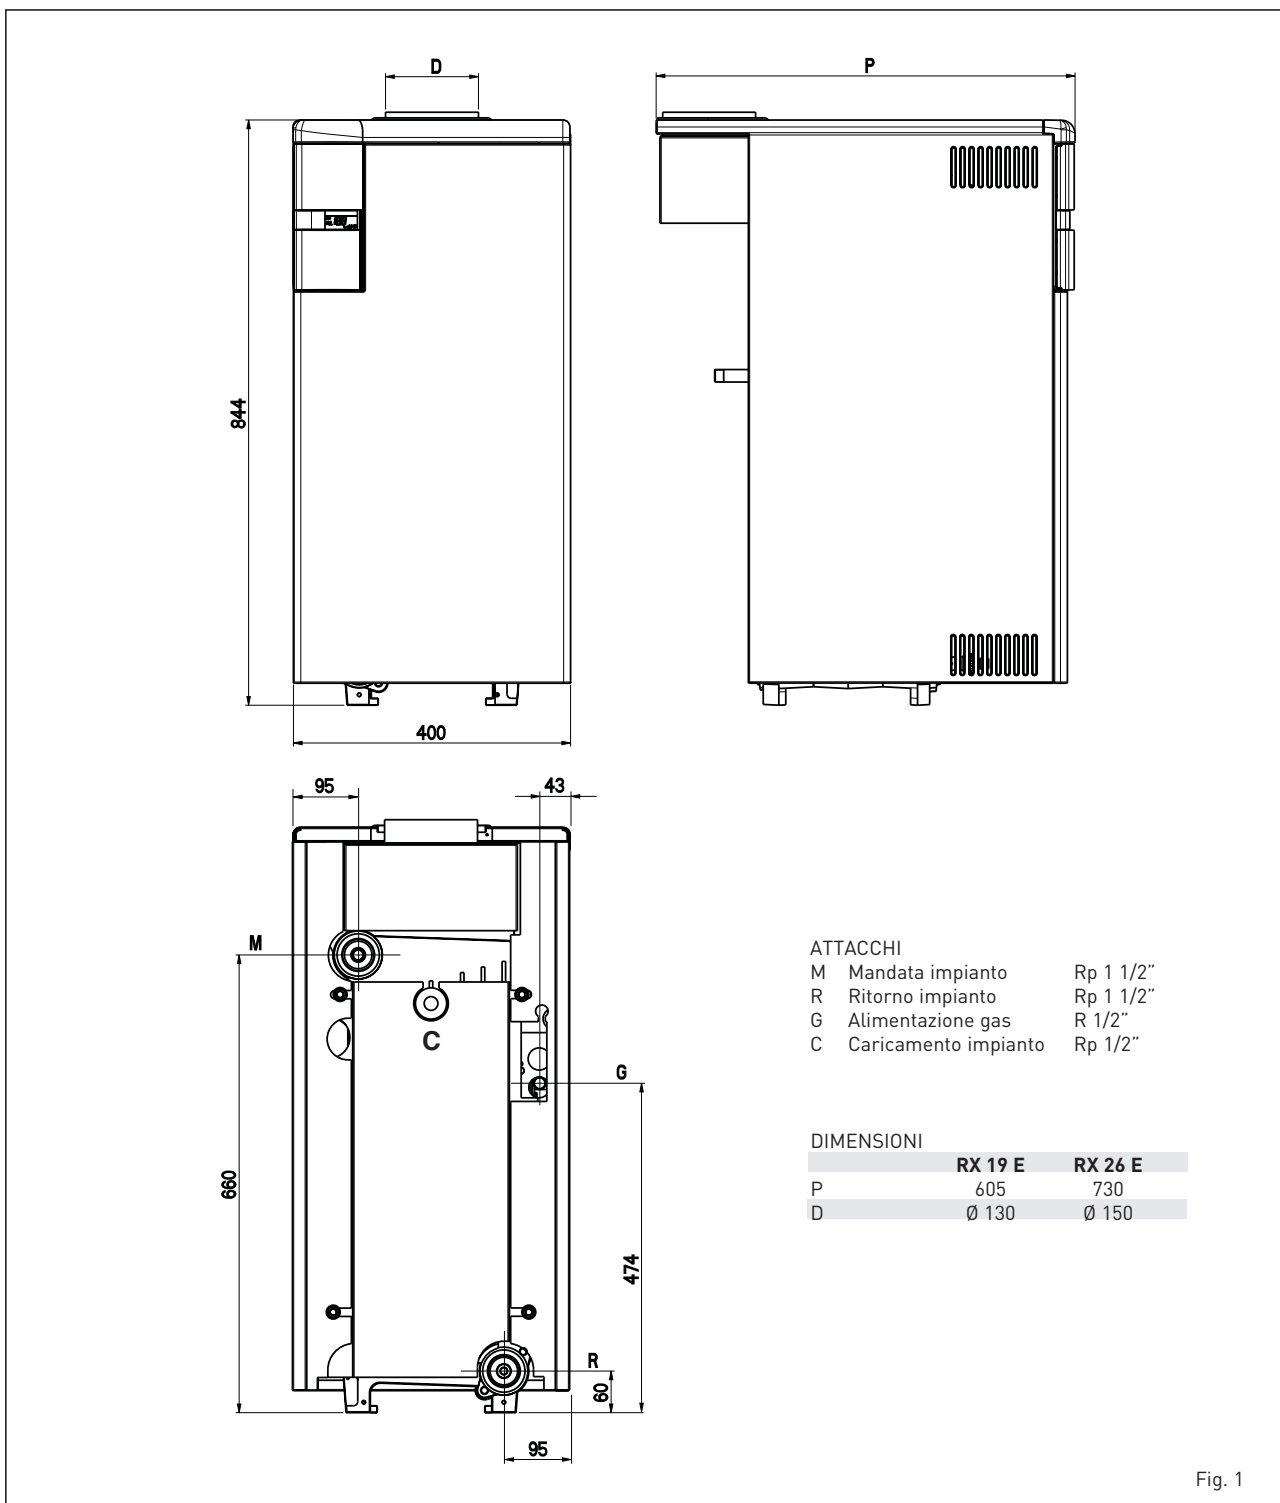

Fig. 1
1.2.1 Modello RX 19-26 E (fig. 1)
1.2.2 Modello RX 37-48-55 E (fig. 1/a)